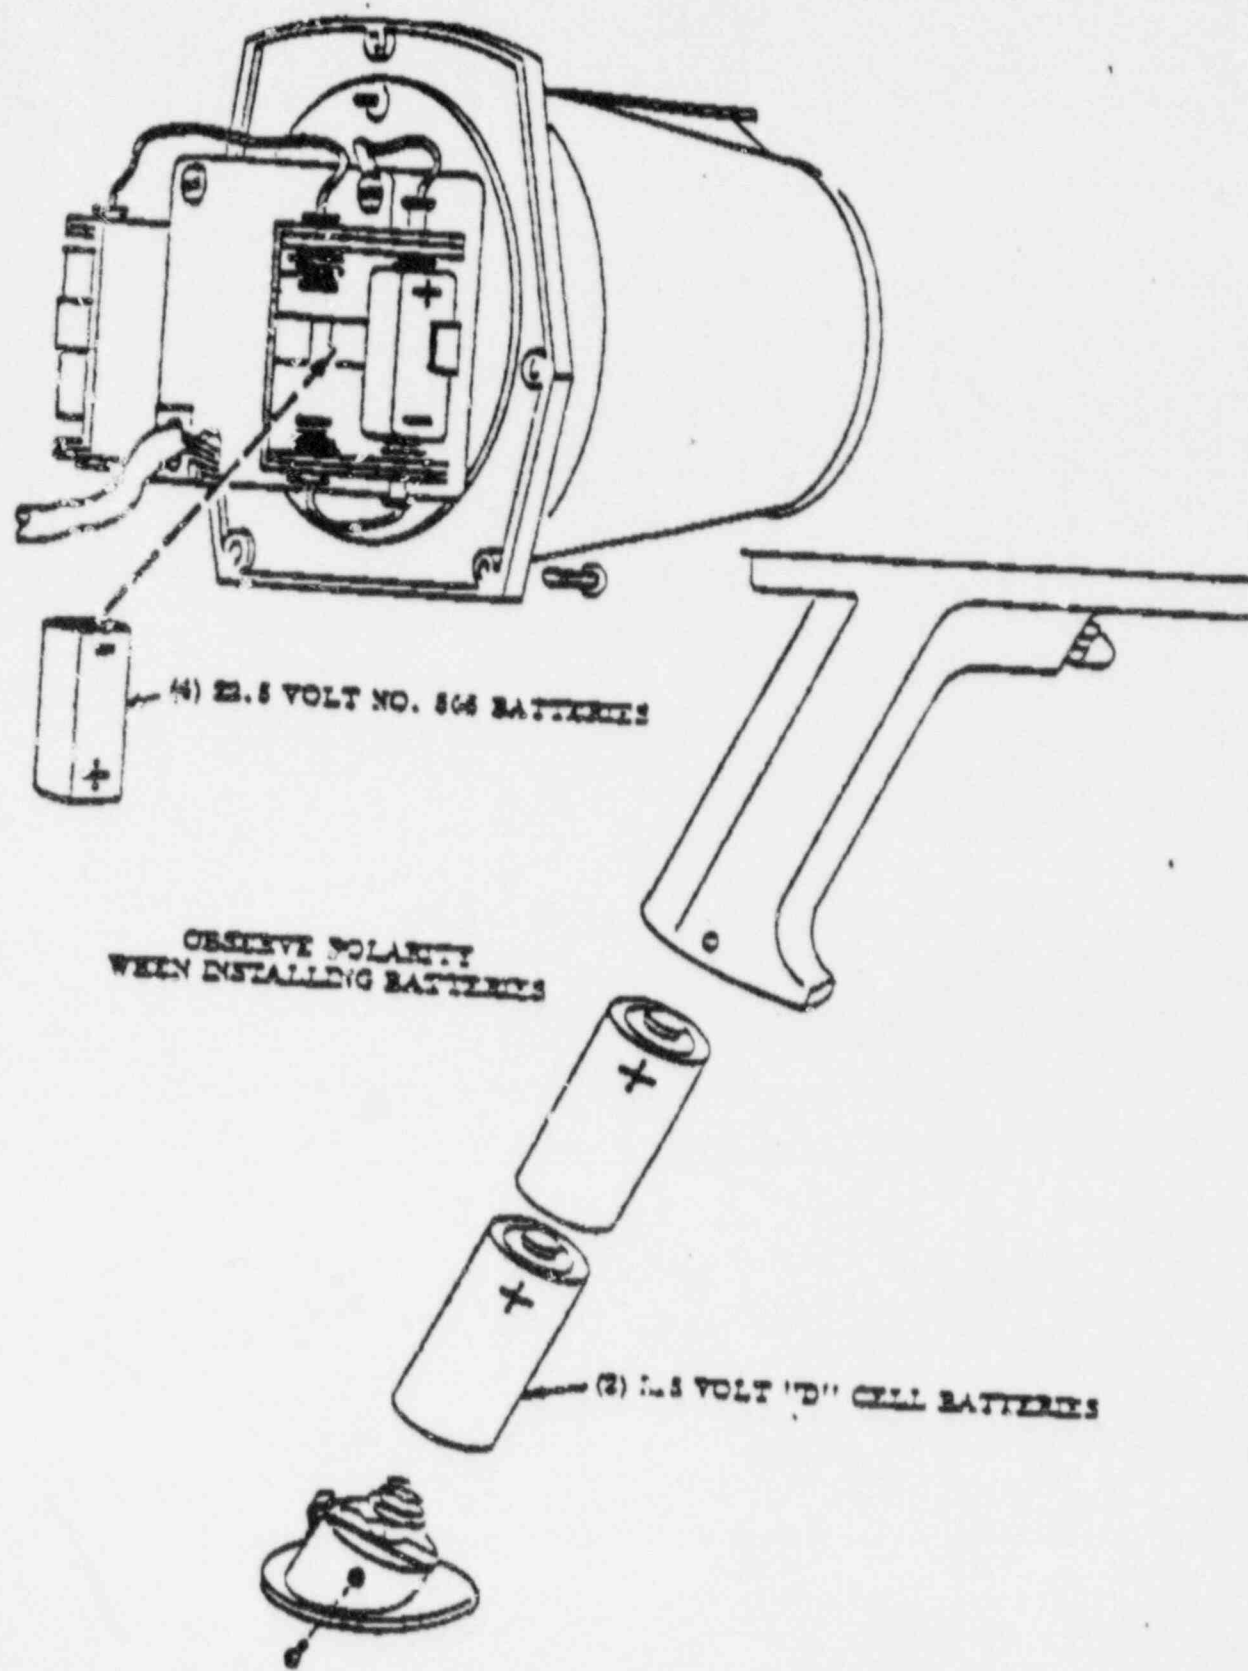

FIGURE 3. Batteries, Cap and Contact Spring Replacement
2.2 Power Requirements - Two 1½ volt and four 22½ volt batteries are supplied with each instrument. Before installing the batteries be sure the Range Switch is in the OFF position. The D cells are installed in the handle by removing the two side retaining screws which permit removal of the cap. The batteries are inserted and the cap replaced. Be sure to observe battery polarity. When replacing the cap be sure the contact spring is properly oriented. See Figure 3.
To install the 22½ volt batteries, remove the five screws which hold the front of the instrument to the body and pull the front forward. The battery holder is mounted to the front instrument assembly. Install the 22½ volt batteries observing the proper polarity. (When mounting the front assembly to the body, dress the interconnecting cable in a manner which will not cause interference). Replace the five mounting screws. See Figure 3.